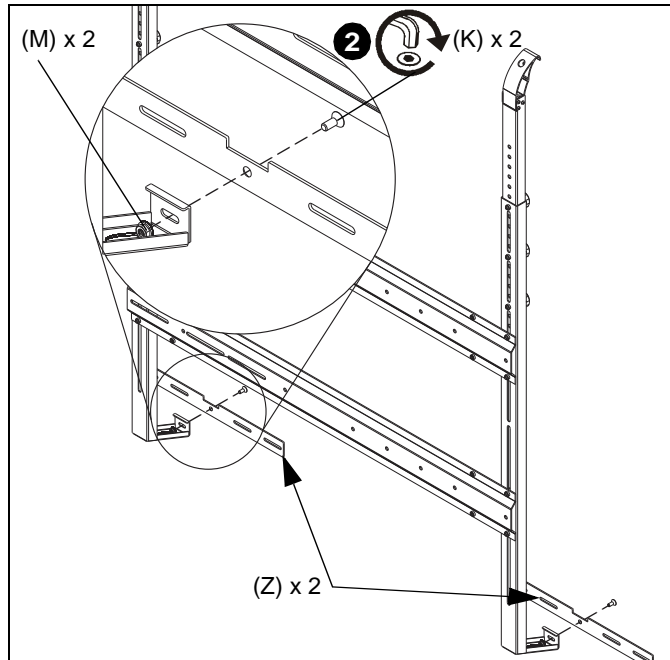

Figure 6
2. Attach one lower wall bracket (Z) to each of the leg assemblies using one 1/4-20 x 1/2" flat head cap screw (K) and one 1/4-20" hex nut (M) on each lower wall bracket. (See Figure 6)